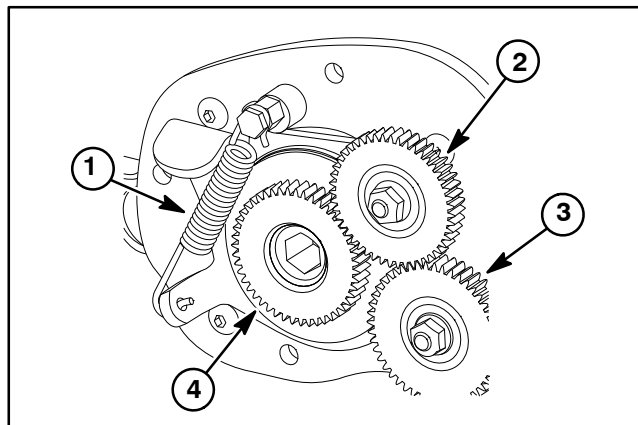

Figure 12
5. Remove groomer cover assembly (item 22) and gasket (item 20) from machine (see Groomer Cover (Counter Rotating Groomer Drive) in this section). Discard gasket.
6. Carefully remove extension spring from anchor points on RH drive plate (Fig. 12).
9. Install extension spring to RH drive plate assembly (Fig. 12).
11. Make sure that bushing (item 3) is installed in RH drive plate assembly.
13. Position RH groomer arm assembly to front roller, RH drive plate and cutting unit frame. Secure groomer arm to cutting unit with plow bolt (item 31), HOC washer (item 9) and HOC nut (item 2).
14. Secure RH groomer arm assembly to drive plate with spring washer (item 4) and lock nut (item 5).
15. Center front roller to cutting unit and tighten cap screws (item 7) to secure roller.
16. Fill groomer cover with approximately five (5) ounces (142 grams) of Mobil XHP221 grease (or equivalent). Install new gasket and then groomer cover assembly to RH drive plate (see Groomer Cover (Counter Rotating Groomer Drive) in this section).